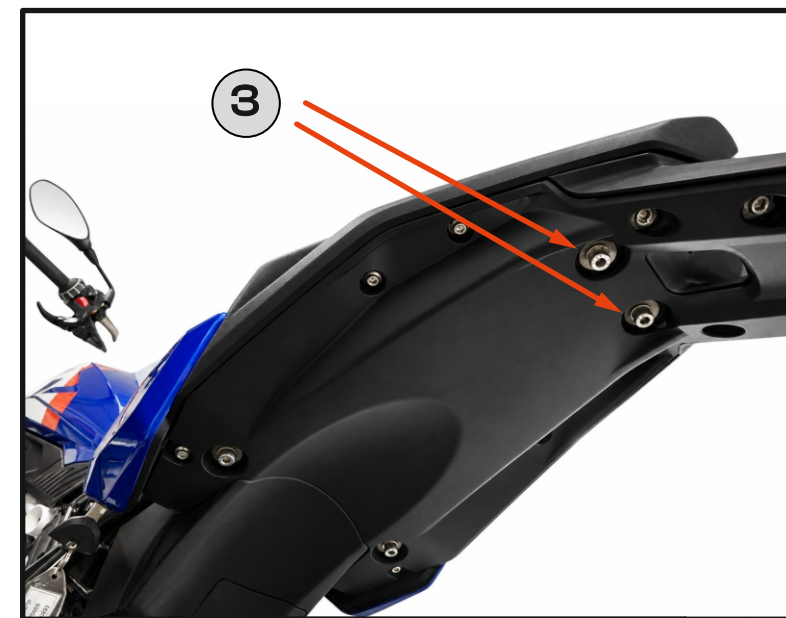

Fig. 4
3. Unscrew the OEM bolts [Fig. 4].